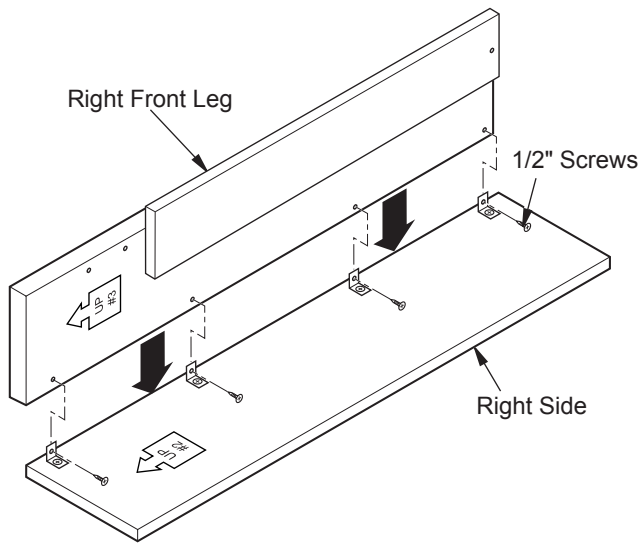
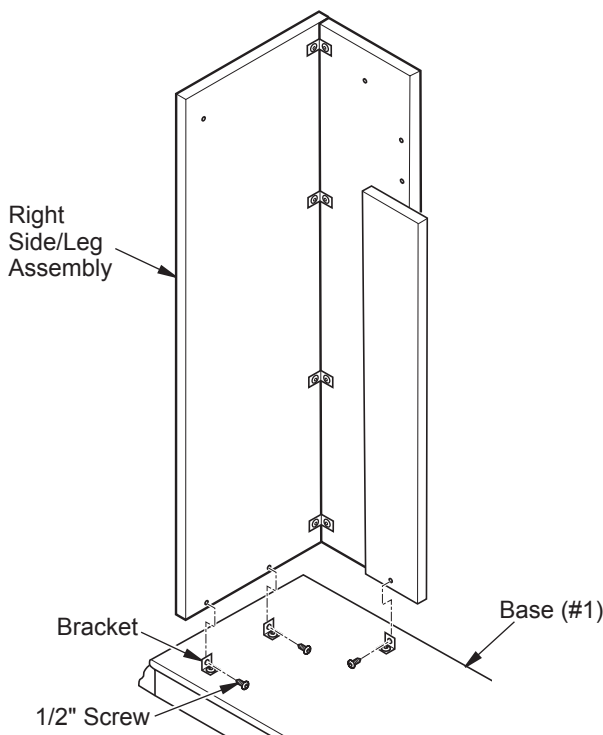

Figure 1 - Attaching Front Leg
Figure 2 - Leg Assembly to Base
1. Lay right side panel (#2) face down on a soft surface to avoid marking finish. Attach four brackets with 1/2" screws to bottom of right front leg (#3) leaving screws slightly loose. Face brackets out (see Figure 1). Place right front leg (#3) over right side (#2) as shown in Figure 2, paying close attention to direction arrow pointing up on panels. Align threaded holes with brackets on side. Start four 1/2" screws through brackets. Align bottom of side and leg assembly so they are flush with each other. Hold these pieces securely in alignment while tightening (but not over tightening) screws.
3. Attach 6 brackets to base (#1) at threaded hole locations using 1/2" screws leaving screws loose. Face brackets toward outside (see Figure 2).